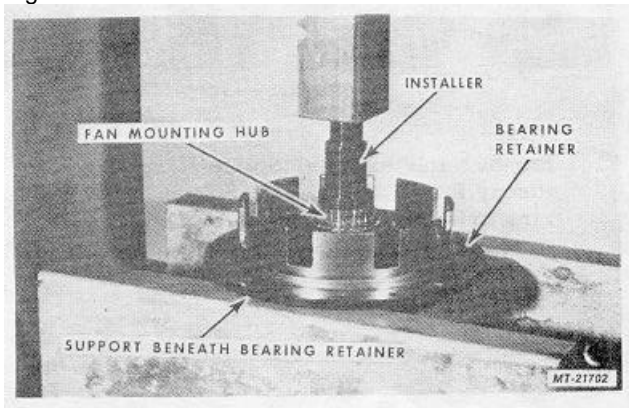

Fig. 10
7. Support beneath Bearing Retainer as close as possible to Fan Mounting Hub. Insert the short end of Installer SE-2782-1 in the end of the Fan Mounting Hub, Fig. 10.